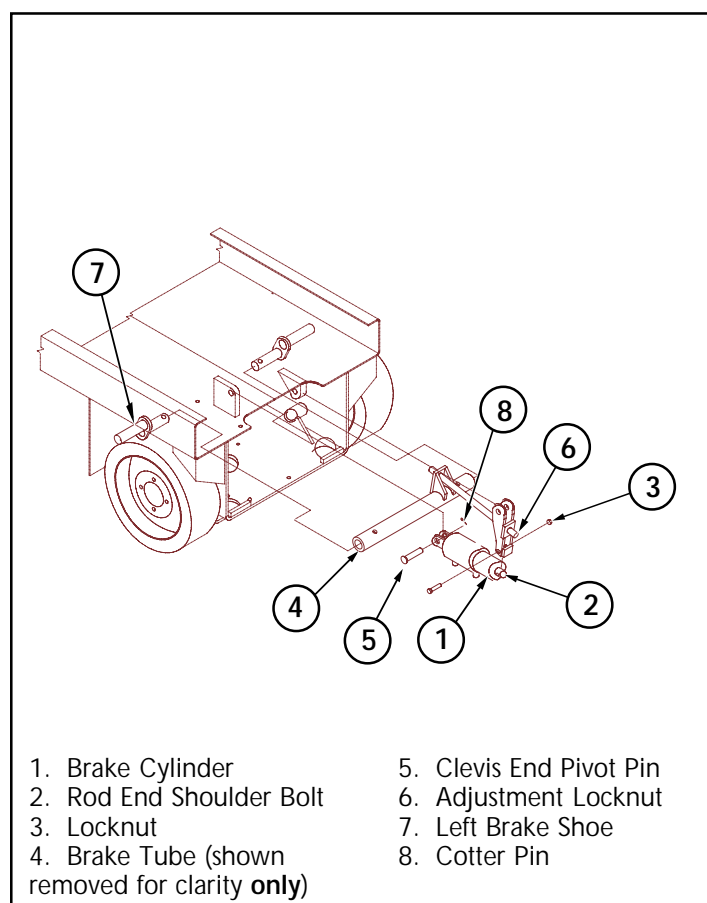

Figure 4-14: Brake Cylinder Installation
4.10 Brake Cylinder (Figure 4-14)